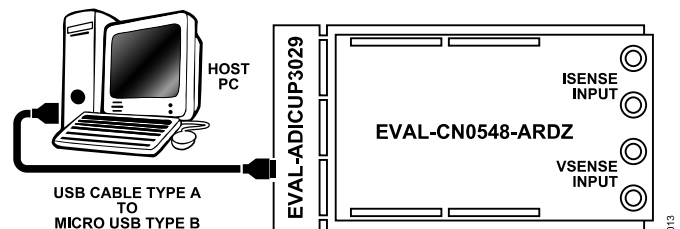

Figure 12. Host Computer Connection
1. Connect the EVAL-CN0548-ARDZ on top of the EVAL-ADICUP3029 platform board as shown in Figure 12.